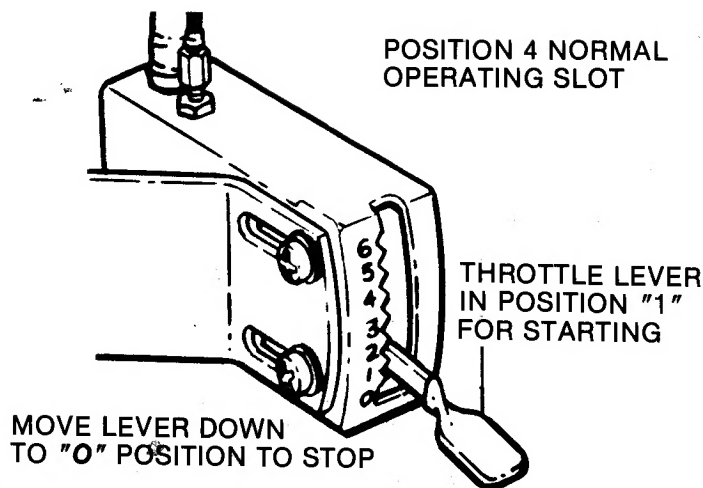

FIG. 4 -- THROTTLE CONTROL
**STEP 3:** Move the THROTTLE LEVER into number 1 slot (figure 4).